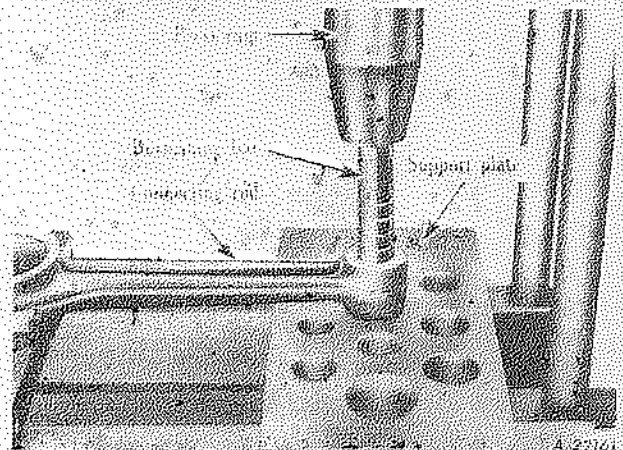

Fig. 39 - Use a burnishing tool
7. With properly fitting adapter, press old piston pin bushing from connecting rod. Place new piston pin bushing in position, align oil hole in bushing with oil hole in connecting rod, install bushing with a .0055" to .0035" press fit. Burnish bushing in place in the connecting rod (Fig. 39).